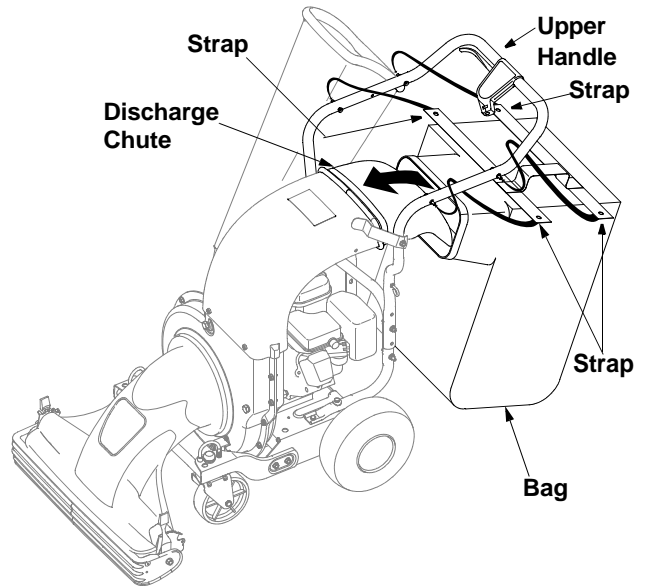

**Figure 5**
- Place the chipper chute over the weld studs keeping the slotted side towards the bottom. Loosely secure with the three hex nuts and bell washers that were removed earlier. Do not fully tighten the hex nuts at this point in the assembly. See Figure 5.
- Replace the hex bolts, saddle washers and flange nuts to affix the support bracket to the handle assemblies. See Figure 5.